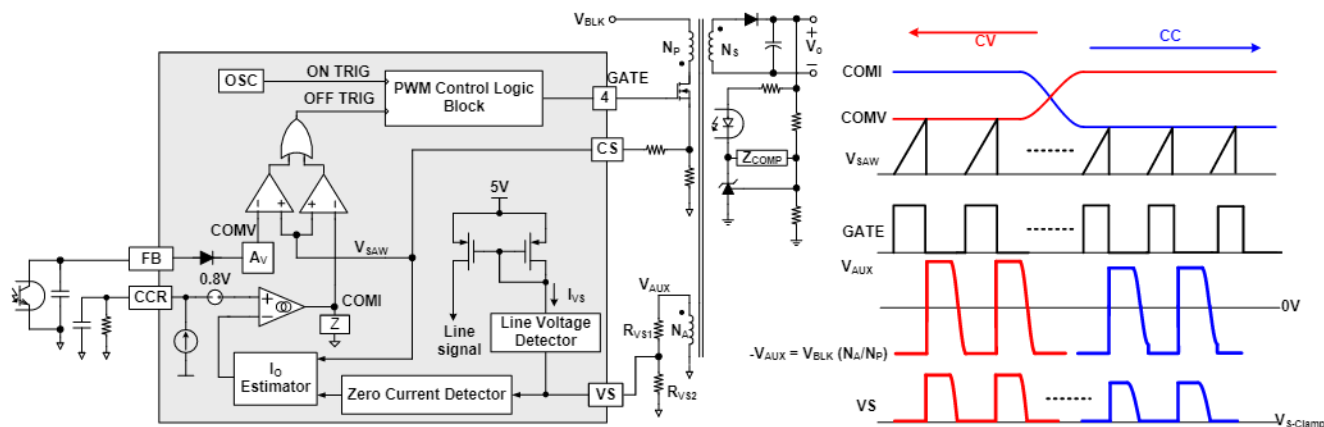
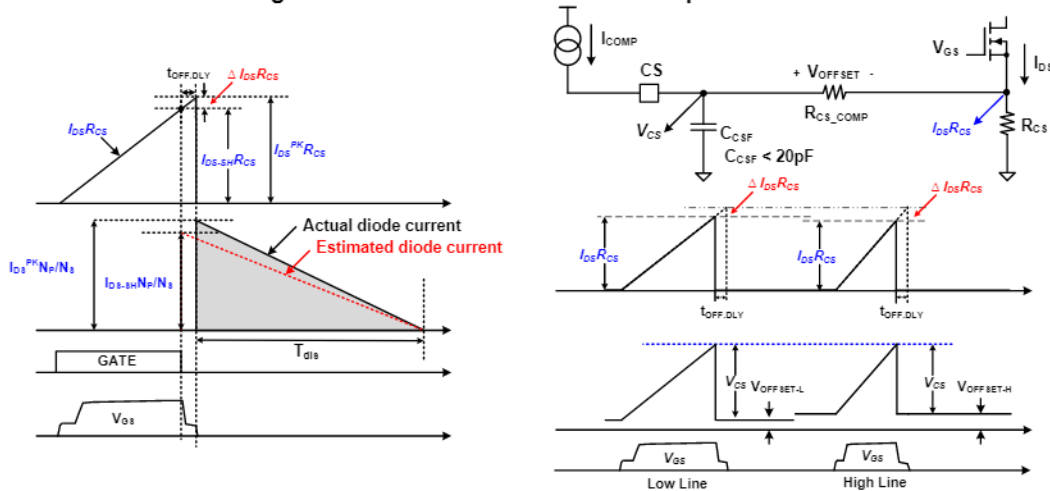

Figure 27 Simplified PWM Control Circuit and PWM Operation for CV/CC Regulation
Figure 29 Effect of MOSFET Turn-off Delay and Line Voltage Compensation
The FAN604S indirectly senses the line voltage through the VS pin while the MOSFET is turned on, as illustrated in Figure 27. MOSFET turn-on period, the auxiliary winding voltage, V_{AUX} , is proportional to the input bulk capacitor voltage, V_{BLK} , due to the transformer coupling between the primary and auxiliary windings. During the MOSFET conduction time, the line voltage detector clamps the VS pin voltage to $V_{S-Clamp}$ (0 V), and then the current I_{VS} flowing out of VS pin is expressed as:
Figure 27 shows a simplified CV / CC PWM control circuit of the FAN604S. The Constant Voltage (CV) regulation is implemented in the same manner as the conventional isolated power supply, where the output voltage is sensed using a voltage divider and compared with the internal reference of the shunt regulator to generate a compensation signal. The compensation signal is transferred to the primary side through an opto-coupler and scaled down by attenuator A_V to generate a COMV signal. This COMV signal is applied to the PWM comparator to determine the duty cycle.
These two control signals, COMV and COMI, are compared with an internal sawtooth waveform (V_{SAW}) by two PWM comparators to determine the duty cycle. Figure 27 illustrates the outputs of two comparators, combined with an OR gate, to determine the MOSFET turn-off instant. Either of COMV or COMI, the lower signal determines the duty cycle. During CV regulation, COMV determines the duty cycle while COMI is saturated to HIGH level. During CC regulation, COMI determines the duty cycle while COMV is saturated to HIGH level.
The output current estimation is also affected by the turn-off delay of the MOSFET as illustrated in Figure 29. The actual MOSFET's turn-off time is delayed due to the MOSFET gate charge and gate driver's capability, resulting in peak current detection error as
Where L_m is the transformer's primary side magnetizing inductance. Since the output current error is proportional to the line voltage, the FAN604S incorporates line voltage compensation to improve output current estimation accuracy. Line information is obtained through the line voltage detector as shown in Figure 27. I_{COMP} is an internal current source, which is proportional to line voltage. The line compensation gain is programmed by using CS pin series resistor, R_{CS_COMP} , depending on the MOSFET turn-off delay, t_{OFF_DLY} . I_{COMP} creates a voltage drop, V_{OFFSET} , across R_{CS_COMP} . This line compensation offset is proportional to the DC link capacitor voltage, V_{BLK} , and turn-off delay, t_{OFF_DLY} . Figure 29 demonstrates the effect of the line compensation.